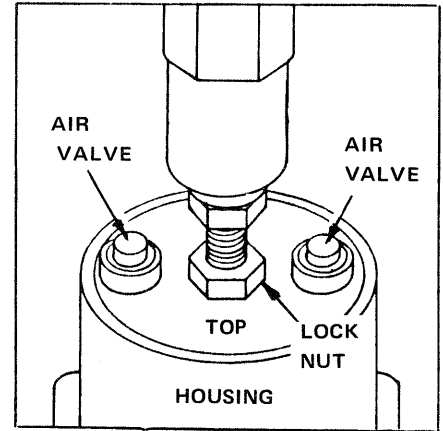

FIGURE 9-43 Dashpot Air Valves.
- G. If the Solenoid appears to be sluggish when it operates, check the tightness of the Air Valves on the top of the Dashpot (See Figure 9-43). If they are tight, turn BOTH of them 1/4 turn COUNTERCLOCKWISE. This will decrease the internal resistance of the Dashpot and speed the actuation of the Solenoid. \* (NOTE: CAUTION below). Proceed to Point H.
- H. If it appears that the Solenoid still does not have enough thrust, Loosen the Lock Nut at the top of the Dashpot (See FIGURE 9-43) and turn the top of the Dashpot CLOCKWISE until the Solenoid operates correctly, then tighten down the Lock Nut. Proceed to Point 'N' on page 146. (See NOTE below).
- J. Return the Control to the point where the Solenoid starts operating correctly, then check the tightness of the Dashpot Air Valves, (See FIGURE 9-43). If they are loose, tighten them just enough to stop the noise. If the Solenoid begins to function correctly, proceed to Point 'N' on page 146. If it does not function correctly, proceed to Point 'K'. (REFER TO CAUTION above).
- K. Loosen the Lock Nut at the top of the Dashpot (See FIGURE 9-43) and turn the top of the Dashpot COUNTERCLOCKWISE until the Helper Spring in the Dashpot disengages. When performing this operation, DO NOT adjust the top of the Dashpot beyond the point where it is flush with the top of the Dashpot Housing when the Solenoid is actuated. If the Solenoid functions correctly, proceed to Point 'N' on page 146. If the thrust of the Solenoid is still too great, proceed to Point 'L' on page 146. Refer TO THE CAUTION ABOVE.